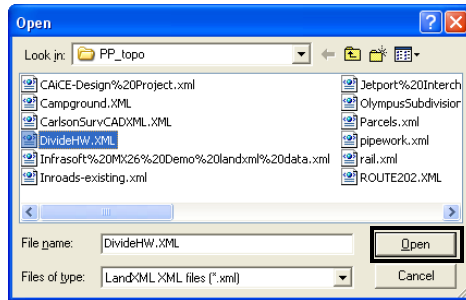

Figure 6-10. Open LandXML File
- On the **Open** dialog box, navigate to the location of the desired file, select it, and click **Open** (Figure 6-10).